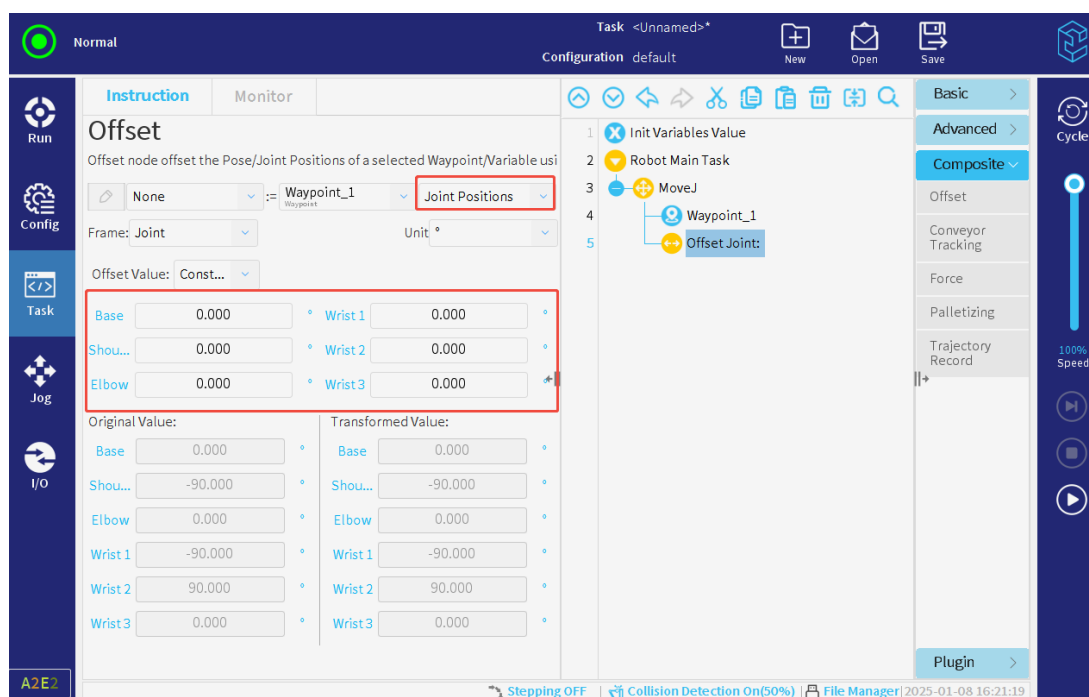

Figure 3-113 : Offset Joint
- As for the joint-based offset (see **Figure 3-113**), the raw data of the same unit can be directly added to the offset values to generate the new joint angle data.